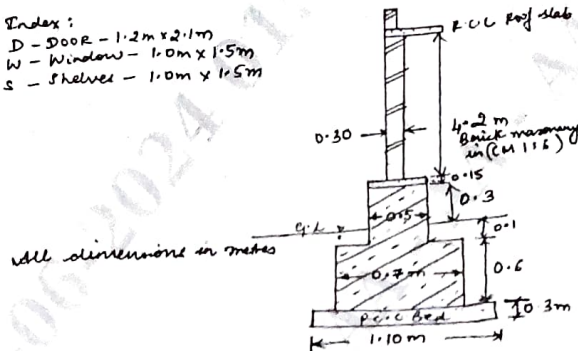

Fig Q7
- 7 Refer Fig Q7 using short wall - long wall method.
- 8 Refer Fig. Q7 . Using short wall – long wall method.